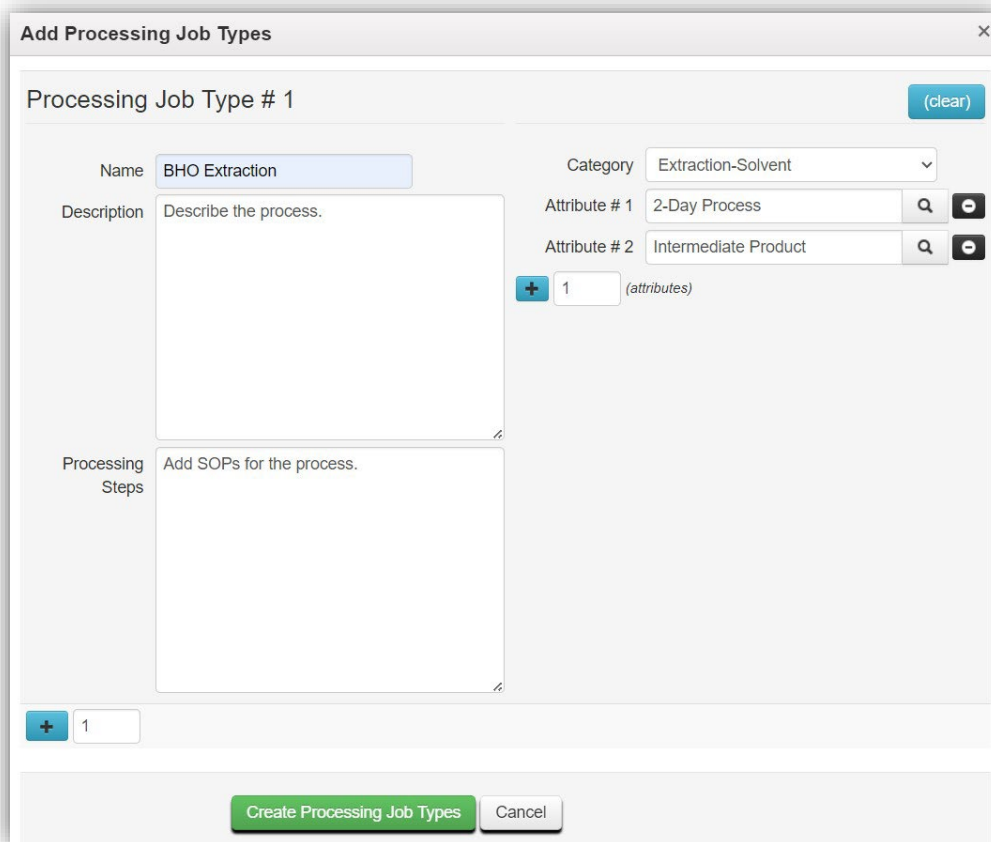

Figure 6: Add Processing Job Types action window
- All of the following fields in the Add Processing Job Types action window must be completed – **see Figure 6.**